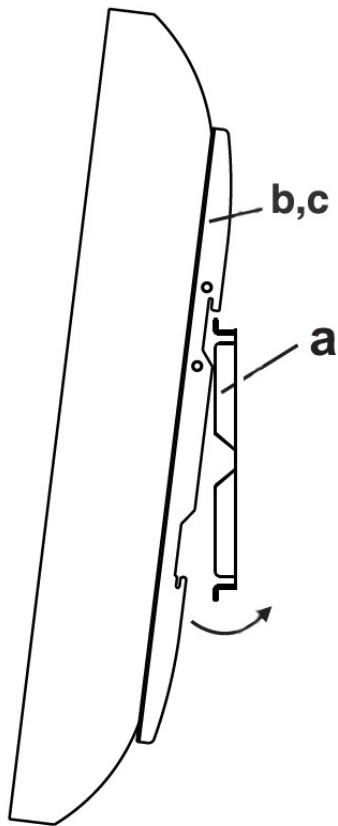

Figure 6
1. Hang the TV with monitor bracket (b,c) assembly onto the top of the wall plate(a) then let the bottom of the monitor brackets rotate to the bottom of the wall plate. See Figure 6.